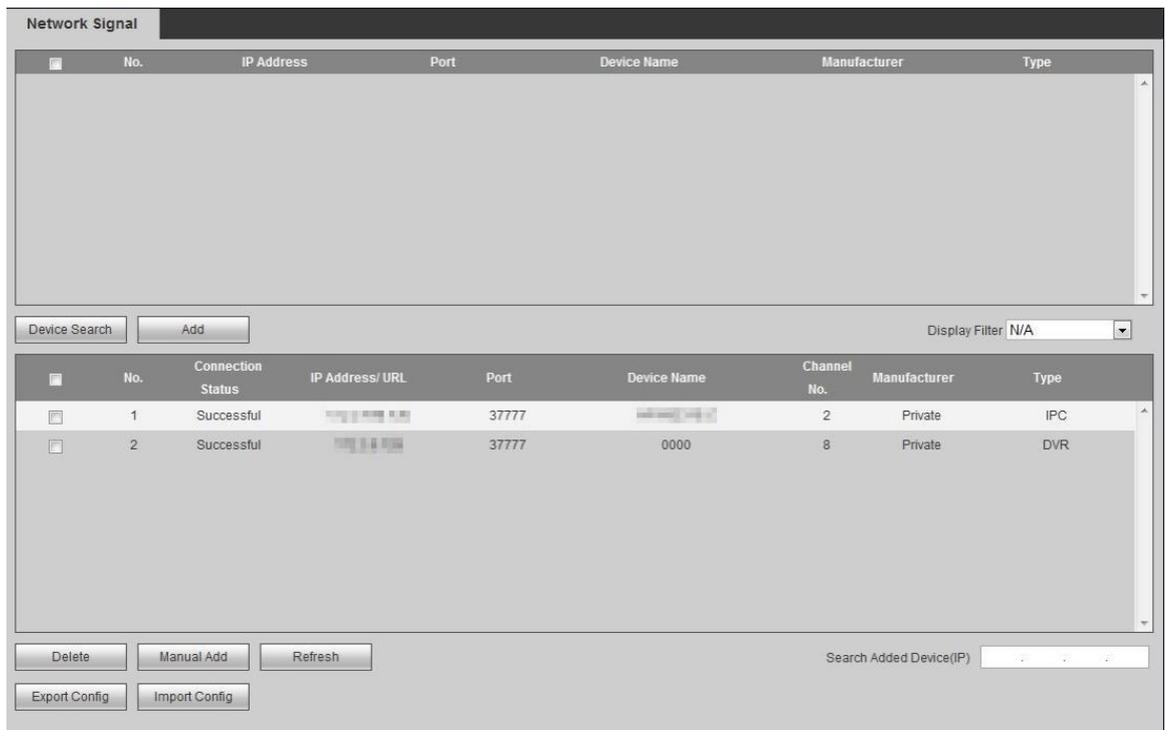

Figure 3-11
**Step 1** Click . The system displays "Network Signal" interface, as shown in Figure 3-11.